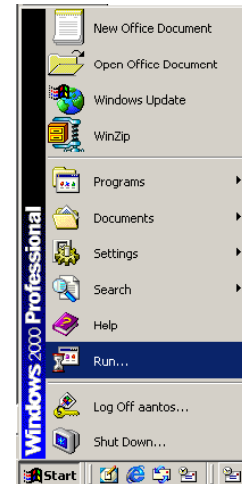

Figure 1: Selecting Run
- 2 Click on **Start** and then select **Run**. See Figure 1.